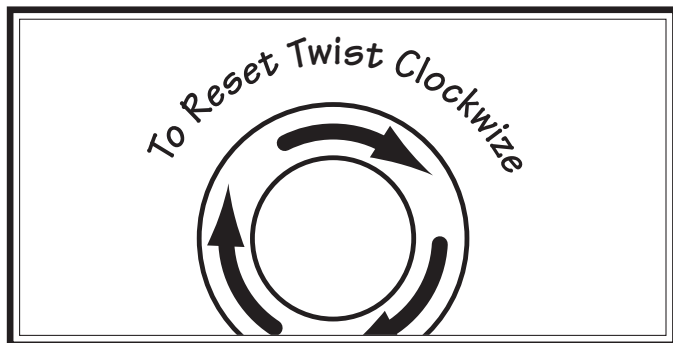

Figure 24. Resetting EMERGENCY STOP button.
4. Twist EMERGENCY STOP button clockwise until it pops out (see **Figure 24**). This resets switch and machine can now start.